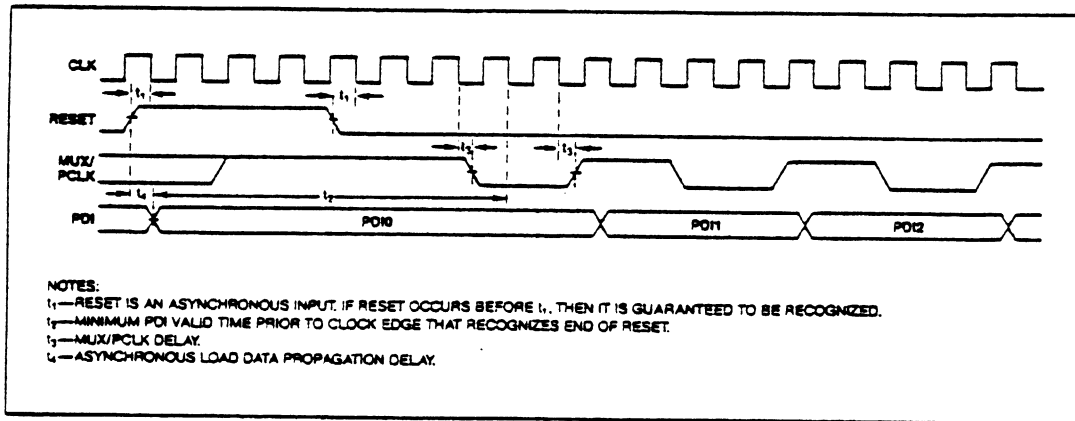

Figure 8. Timing Illustrating External Shift Register Requirements for Programming the 8207
The 8207 is programmed after reset. On the falling edge of RESET, the logic states of several input pins are latched internally. The falling edge of RESET actually performs the latching, which means that the logic levels on these inputs must be stable prior to that time. The inputs whose logic levels are latched at the end of reset are the PCTLA, PCTLB, RFRQ, and PDI pins. Figure 8 shows the necessary timing for programming the 8207.
The 8207 may be configured to use an external shift register with asynchronous load capability such as a 74LS165. The reset pulse serves to parallel load the shift register and the 8207 supplies the clocking signal to shift the data in. Figure 11 shows a sample circuit diagram of an external shift register circuit. Serial data is shifted into the 8207 via the PDI pin (57), and clock is provided by the MUX/PCLK pin (12), which generates a total of 16 clock pulses. After programming is complete, data appearing at the input of the PDI pin is ignored. MUX/PCLK is a dual-function pin. During programming, it serves to clock the external shift register, and after programming is completed, it reverts to a MUX control pin. As the pin changes state to select different port addresses, it continues to clock the shift register. This does not present a problem because data at the PDI pin is ignored after programming. Figure 8 illustrates the timing requirements of the shift register circuitry.